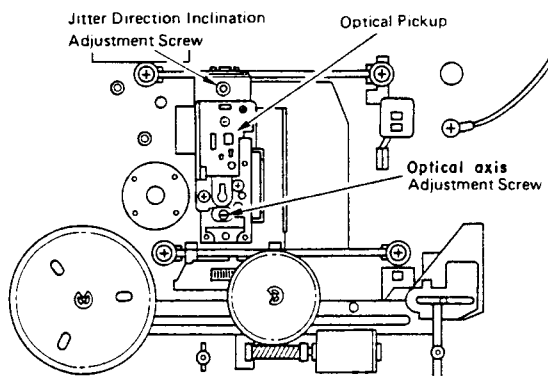

Fig. 4-4
Fine inclination adjustment in the jitter direction is necessary after replacing the pick-up. Adjustment is performed by rotating the Jitter Direction Inclination Adjustment Screw. (Refer to Fig. 4-4)
- 5) Turn right and left the Jitter Direction Adjustment Screw (Fig. 4-4) with the hexagonal driver (2.4 mm) until the HF Signal pattern change from (A) to (B) in Fig. 4-6.